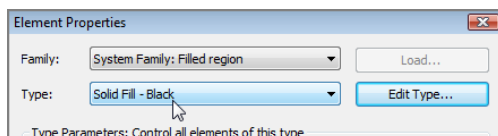

FIGURE 12.22: Changing the region to Solid Fill - Black
2. In the Properties dialog box, click the Edit Type button, and make sure Type is Solid Fill - Black, as shown in Figure 12.22.